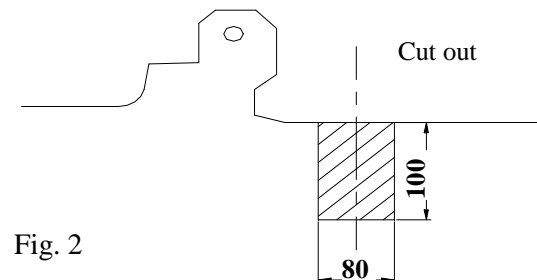

Fig. 2
- Through holes pos. D and distance washers (pos. 5) screw with original tow handle.
- Assemble bumper (cut out fragment – see fig. 2).
- Assemble bumper using two bolts M10x1.25x30mm (pos. 8), through threaded holes inside bumper, this bolts put through holes pos. E in element pos. 4.
- Assemble thermal shield through towbar hole using bolt M6x30mm (pos. 9).
- Fix body of the automat (pos. 18) and the socket plate (pos. 3) using bolts M12x25mm (pos. 19) from accessories. Place tow-ball (pos. 2) according to supplied instruction.